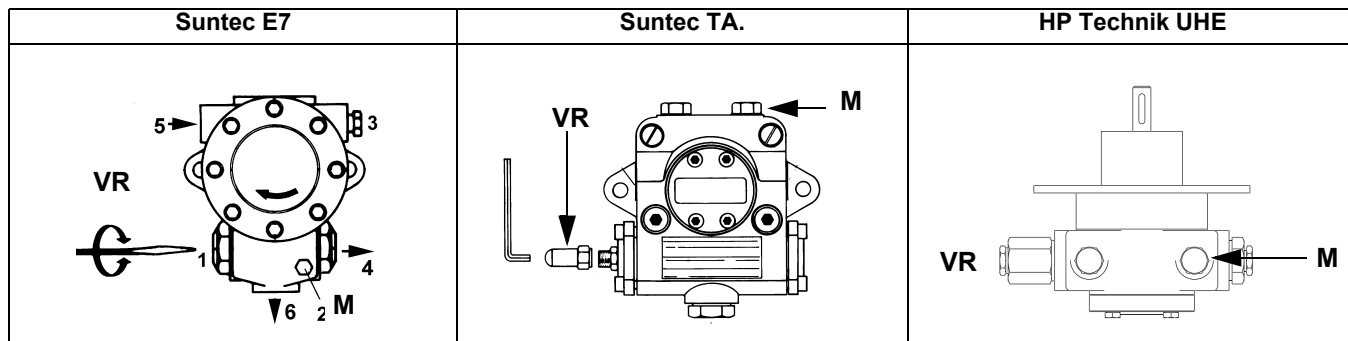

Fig. 9
- 3 bleed the air from the **M** pressure gauge port (Fig. 9) by loosening the cap without removing it, then release the contactor.
- 5 Only if necessary, adjust the supply pressure as follows (see related paragraph); insert a pressure gauge into the port shown on Fig. 10 and act on on the pump adjusting screw **VR** (see Fig. 9) as to get the nozzle pressure at 20bar (Monarch or Fluidics nozzles - see page 40-38).